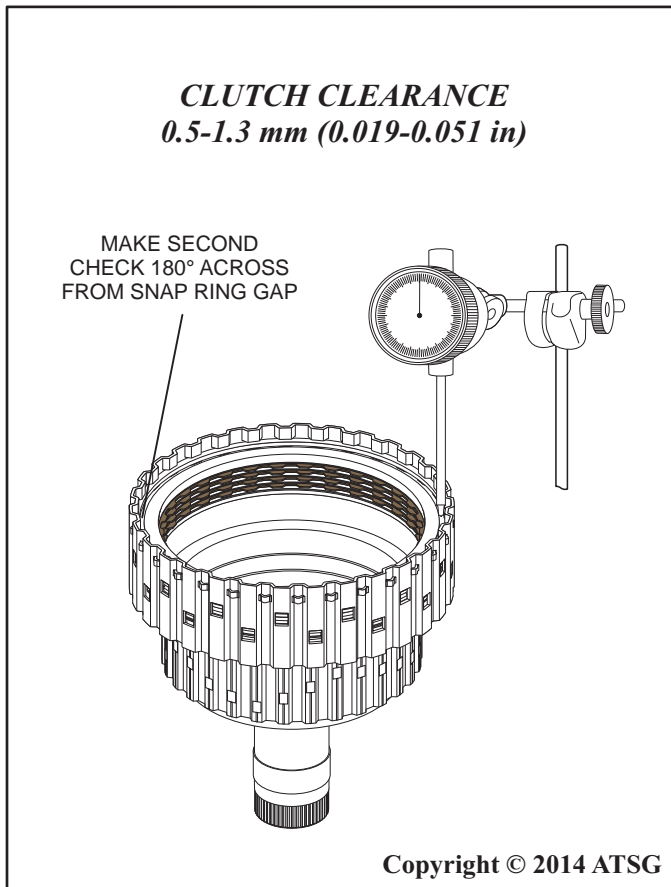

Figure 102
13. Using ST Clutch End Play Gauge 307-555 and Holding Fixture 100-002 or similar holding fixture and adapter, set the direct drum into the fixture and install the dial indicator positioning the plunger so it fits into the opening of the snap ring as shown in Figure 102.
Add measurements A and B together and divide the sum by 2 to give an average clearance reading. Clearance should be between 0.5-1.3 mm (0.019-0.051 in) as shown in Figure 102.